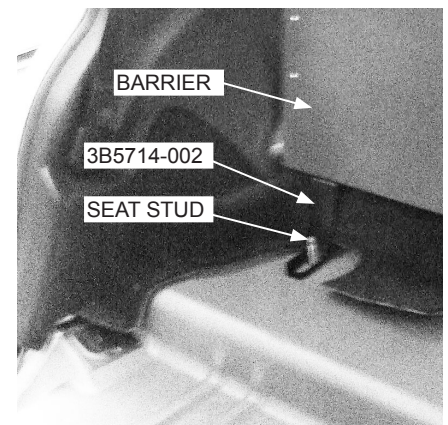

Fig. 1
- B. Place Bracket 3B5714-002 over the OEM seat stud closest to the passenger side door (Fig 1). (If using OEM seat the bracket will rest under the OEM seat frame.) Loosely secure using the OEM nut. Repeat process for drivers side of vehicle using bracket 3B5714-001.